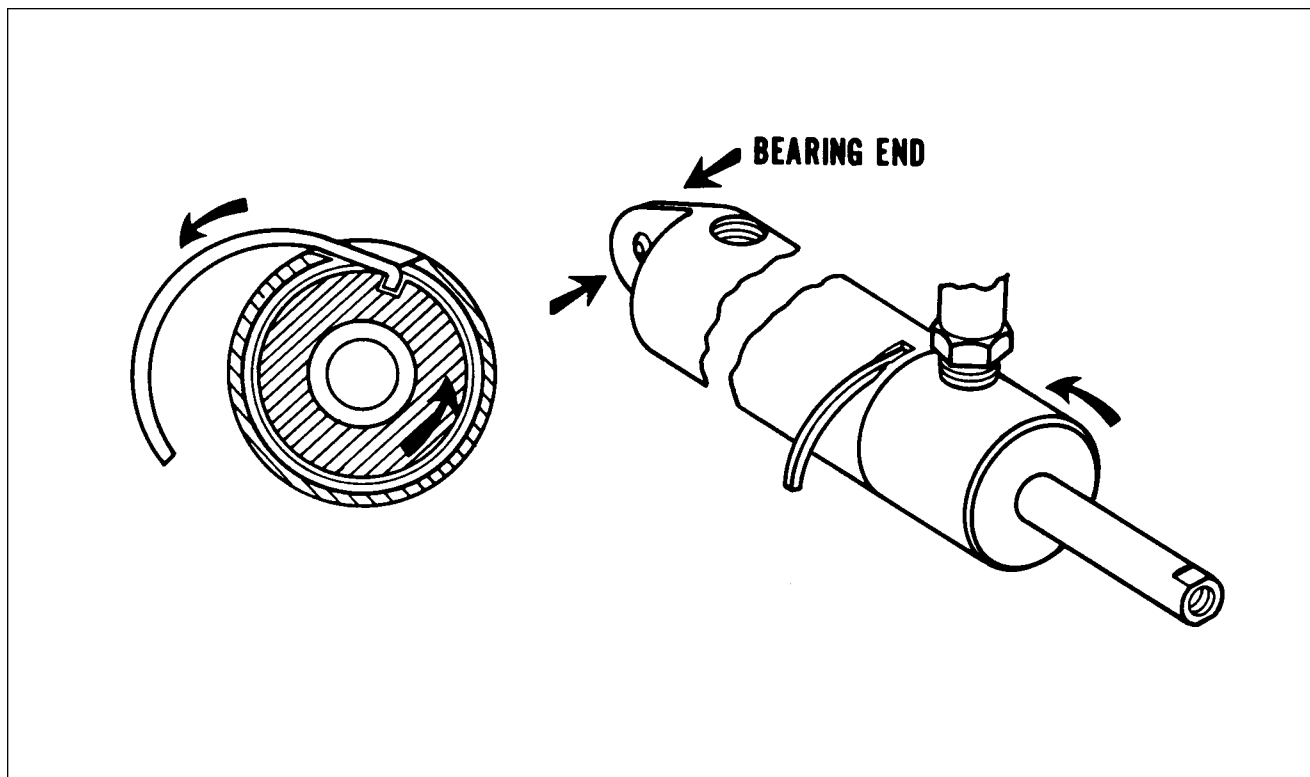

Figure 6-8. End Gland Locking Device
- a. With the cylinder removed from the airplane, push the piston rod (6) (by hand) toward the clevis (9) to remove oil from the unit.
- b. Put clevis (9) only in a soft jaw vise and clamp against the clevis bearing (10).
- c. If no pipe fitting is installed in the port of the end gland (1), install a fitting (1/8-27) into the port. This fitting need not be tight as it will be used for leverage only.
- d. Rotate the gland (with use of fitting) until the end of the gland lock ring (4) shows in the slot in the cylinder body (7). Reverse rotation of the gland to allow the lock ring to move out of the slot. (Refer to Figure 6-8.) (It may be necessary to give the ring an assist to start out of the slot. If so, insert a strong wire pick or other available tool in the slot to lift up the end of the ring and then rotate gland.)
- e. Pull the piston (6) and end gland from the cylinder.